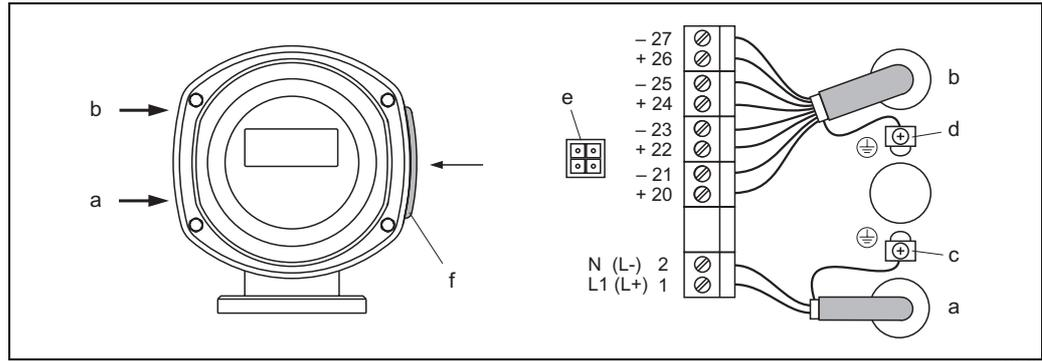

Fig. 19: Connecting the transmitter (stainless steel field housing); cable cross-section: max. 2.5 mm²
- Wiring diagram (stainless steel housing) → Fig. 19